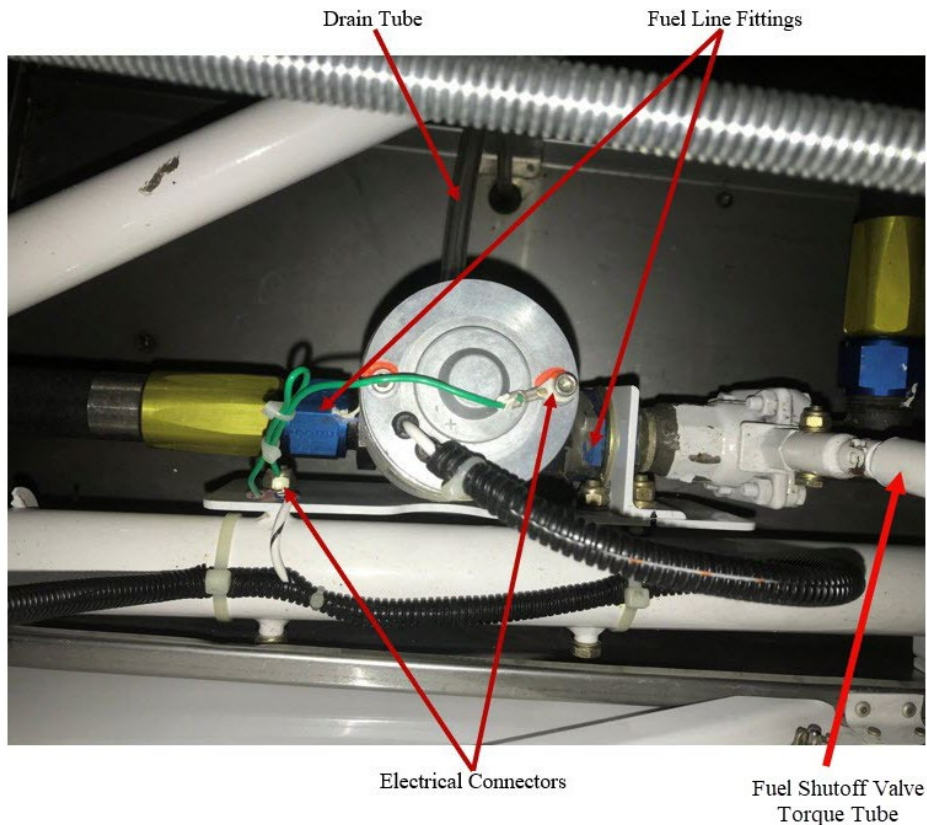

Figure 72-6
- 7) Emergency Fuel Pump Removal (See Figure 72-6 for the following steps (a-g)).